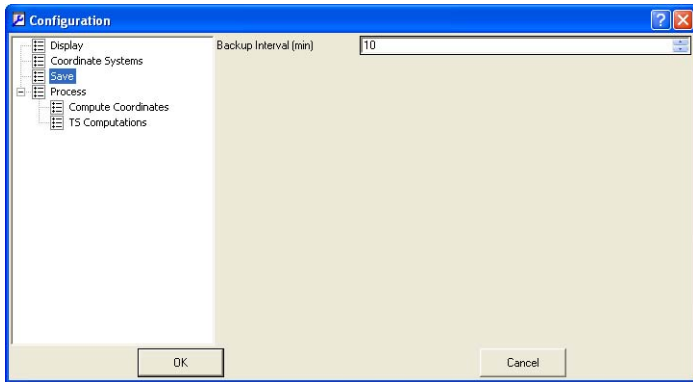

Figure 3-15. Select File Backup Properties
- In the *Save* pane, select the interval in minutes for saving a backup copy of the current file (Figure 3-15). Click **Ok** to save and exit. Topcon Link uses the following rules for saving/deleting backup copies: